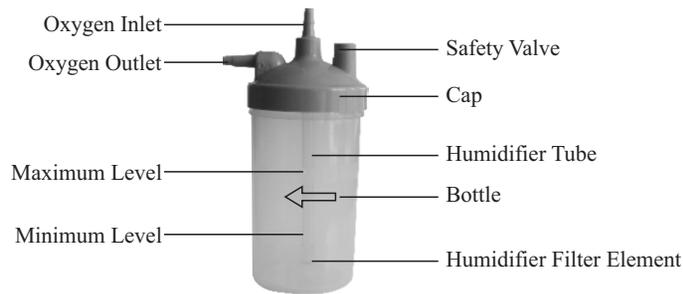

Figure 5: Humidifier Components
1. Unscrew the bottle from the humidifier clockwise. Fill the bottle with pure water (or distilled water) to the level between MAXIMUM and MINIMUM. **DO NOT** fill humidifier bottle over MAXIMUM level. (Figure 5)